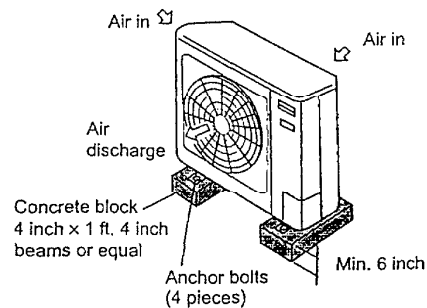

Fig. 4
- provide a solid base; about 6 inch above ground level to reduce humidity and possible water damage in the unit and decreased service life. (Fig. 4)